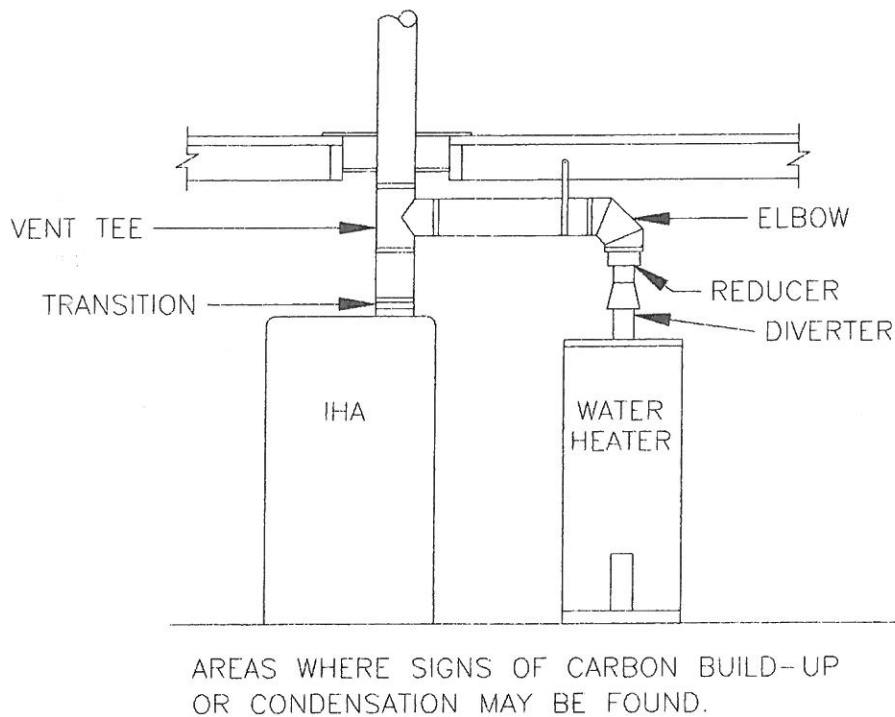

Figure 11
1. Chimney/vent pipe - Vertically vented units - Remove flue pipe from inducer and inspect for restriction, loose joints, carbon build-up and condensation. (Figure 11)